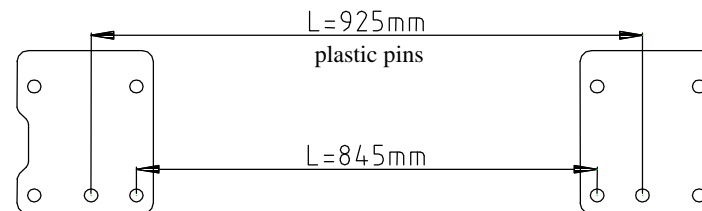

Fig.2 Element's distance
3. On the left and right side in the boot are plastic pins (diameter 11 mm). On this pins put elements pos. 6 (check position of hole A) – see fig. 2. Next drill holes through holes pos. B and C, use bit $\varnothing 11$ mm, drill straight through.
4. Put bolts M10x40 through holes (pos. C) in element pos. 6 and next from below of car put element (pos. 4) from the left side (fix loosely), from the right side put element (pos. 5) - fix loosely too.
5. Through holes pos. B (in elements pos. 6) put bolts M10x30 and fix them with floor and element (pos. 7).
6. In this way prepared elements (pos. 4 and 5) put main bar of the towbar (pos. 1) and fix it using bolts M12x30 (loosely).
7. Through holes (pos. D) fix with original tow handle using distance plain washers $\varnothing 58 \times \varnothing 12 \times 6$ (pos. 8).
10. Fix tow-ball (pos. 2) and socket plate (pos. 3) using bolts M12 x 70mm (pos. 9) from equipment.